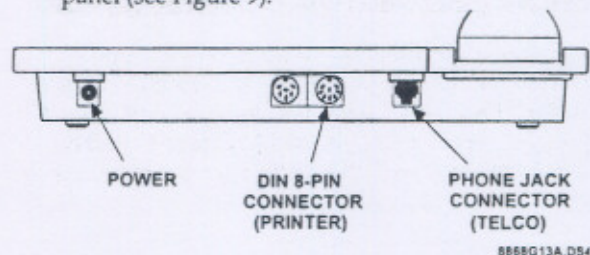

Figure 9. VuFone Rear Panel
- 3) Plug one end of the telephone line cord into the modular jack labeled TELCO on the VuFone rear panel (see Figure 9).
- 5) Remove the plastic plug from the VuFone PRINTER port and connect the DIN 8-pin cable (with the word *TOP* in the up position) into the port (see Figure 9).